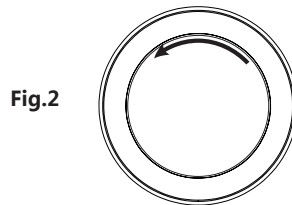

Fig.2
- 1) Rotate the housing counterclockwise to make them separated (**see Fig. 2**).